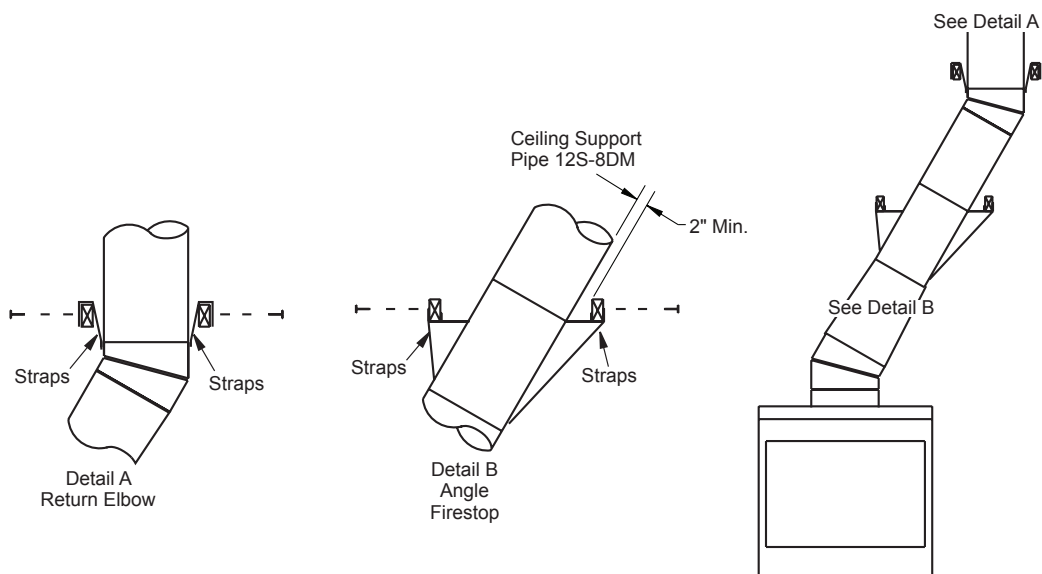

Figure 9 - Ceiling Support Pipe 12S-8DM
2. Chimney weight above offset rests on return elbow. Straps must be securely nailed to rafters or joists (see Figure 9, details A and B on page 9).